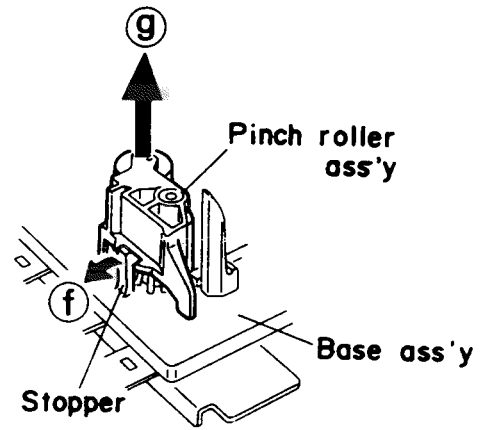

Fig. 2-38
■ Pinch roller assembly (Fig. 2-38)
1. Pull out the stopper protruding from the base assembly in the direction of the arrow ① to remove it from the pinch roller assembly.
2. Then, pull out the pinch roller assembly in the direction of the arrow ②.